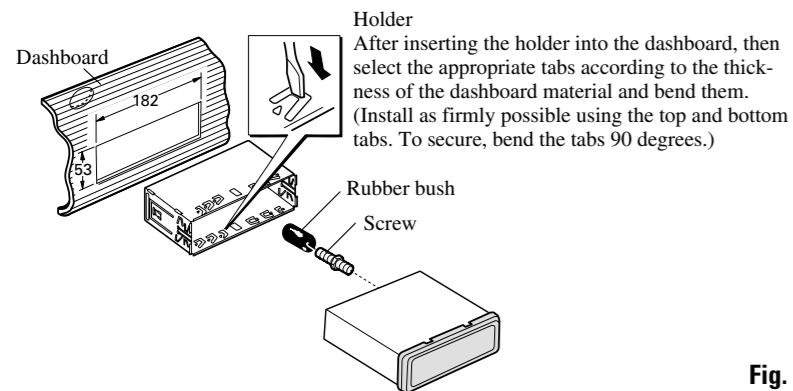

Fig. 9
**Installation with the rubber bush (Fig. 9)**